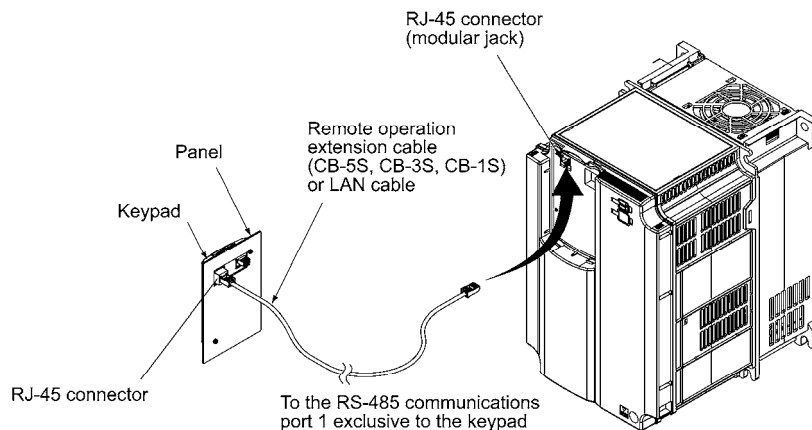

Figure 3.3-26 Connecting the Keypad to the Inverter with Remote Operation Extension Cable or an Off-the-shelf LAN Cable
- (3) Using a remote operation extension cable or a LAN cable, interconnect the keypad and the inverter (insert one end of the cable into the RS-485 port with RJ-45 connector on the keypad and the other end into that on the inverter) (See Figure 3.3-26).